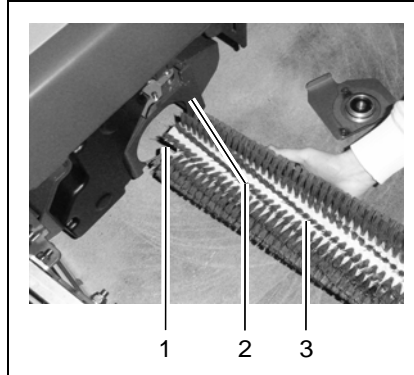

Fig. 7
6. Lay one hand under the rotary brush (Fig. 7/3) and slide it together with the catches (Fig. 7/1) into the housing (Fig. 7/2).